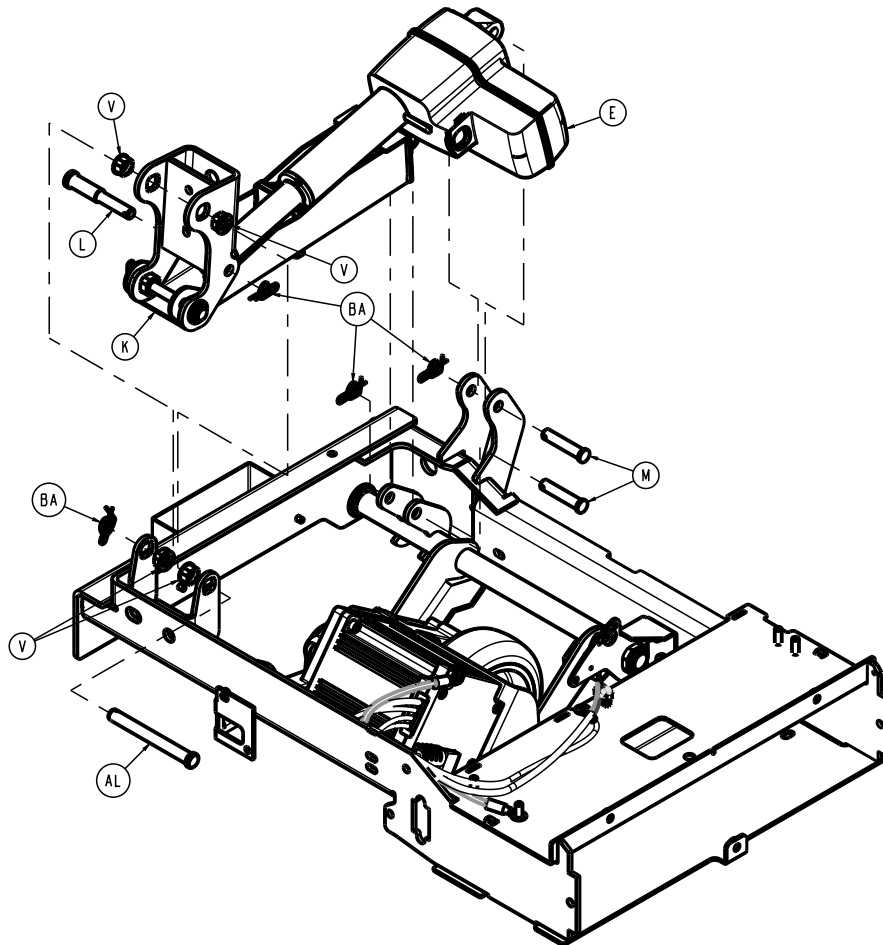

Figure 48 – Removing the Zoom actuator
9. Using needle nose pliers, remove the rue ring cotter (BA) from the actuator ram pin (L) and clevis pin (AL) (Figure 48). Save the rue ring cotter.
10. Lift up on the **Zoom** motor drive wheel and remove the clevis pin (AL) and actuator ram pin (L) (Figure 48). Save the clevis pin and ram pin.
11. Using needle nose pliers, remove the rue ring cotter (BA) from the actuator base pin (M) (Figure 48). Save the rue ring cotter.
12. Holding the actuator, remove the actuator base pin (M) (Figure 48). Save the base pin.
9. Using needle nose pliers, remove the rue ring cotter (BA) from the clevis pin (AL) (Figure 48). Save the rue ring cotter.
10. Lift up on the **Zoom** motor drive wheel and remove the clevis pin (AL) (Figure 48). Save the clevis pin.